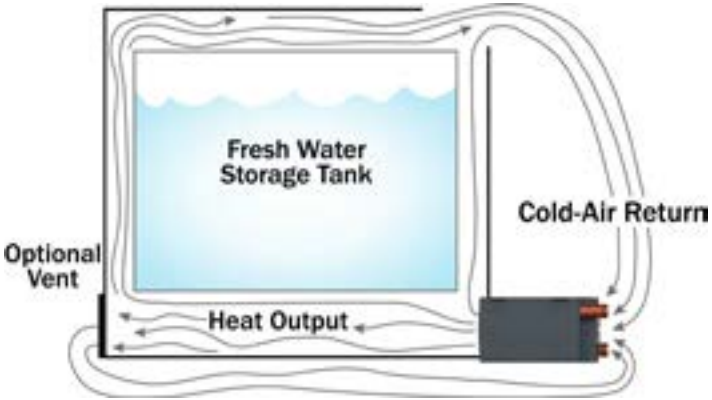

Figure 22
- If a heat exchanger is kept in the fresh water storage bay, then the last heat exchanger in the coolant loop should be used. See figure 22.